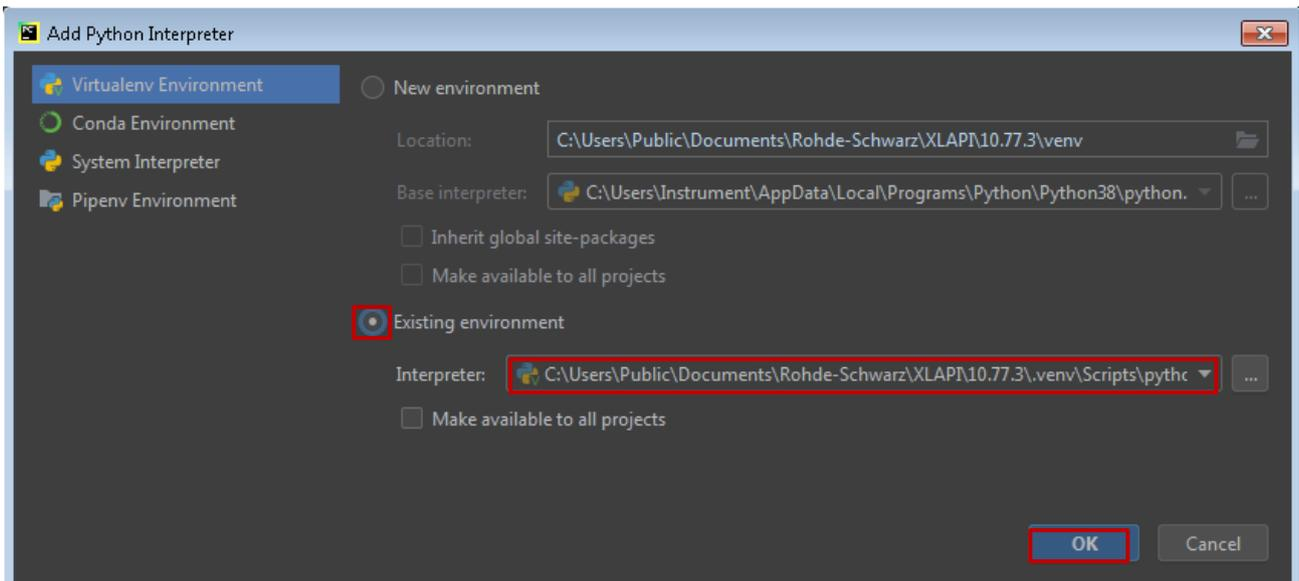

Figure 79 Specify Python interpreter
- ▶ Choose option 'Existing environment', specify the path of the interpreter associated with the current XLAPI version if it is not automatically given in the configuration line, and then click on 'OK' to confirm (see Figure 79).